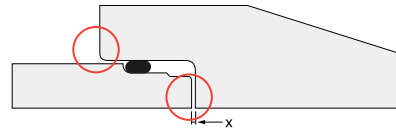

FIG. 4 Jointing using D Ring
- The "D" ring is placed on the first step of the spigot (*refer to Figure 4*) with the flat face on the concrete. The ring must be evenly tensioned by 'pinging' the ring around the perimeter of the spigot, ensuring that it rolls evenly into position. It will compress to form a watertight seal when the pipes are pushed home.
Note: (*) Refer to Figure 4